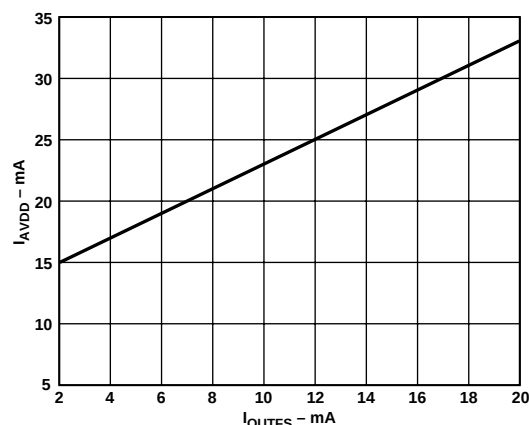

Figure 24.  $I_{AVDD}$  vs.  $I_{OUTFS}$
The power dissipation,  $P_D$ , of the AD9754 is dependent on several factors, including: (1) AVDD and DVDD, the power supply voltages; (2)  $I_{OUTFS}$ , the full-scale current output; (3)  $f_{CLOCK}$ , the update rate; and (4) the reconstructed digital input waveform. The power dissipation is directly proportional to the analog supply current,  $I_{AVDD}$ , and the digital supply current,  $I_{DVDD}$ .  $I_{AVDD}$  is directly proportional to  $I_{OUTFS}$ , as shown in Figure 24, and is insensitive to  $f_{CLOCK}$ .